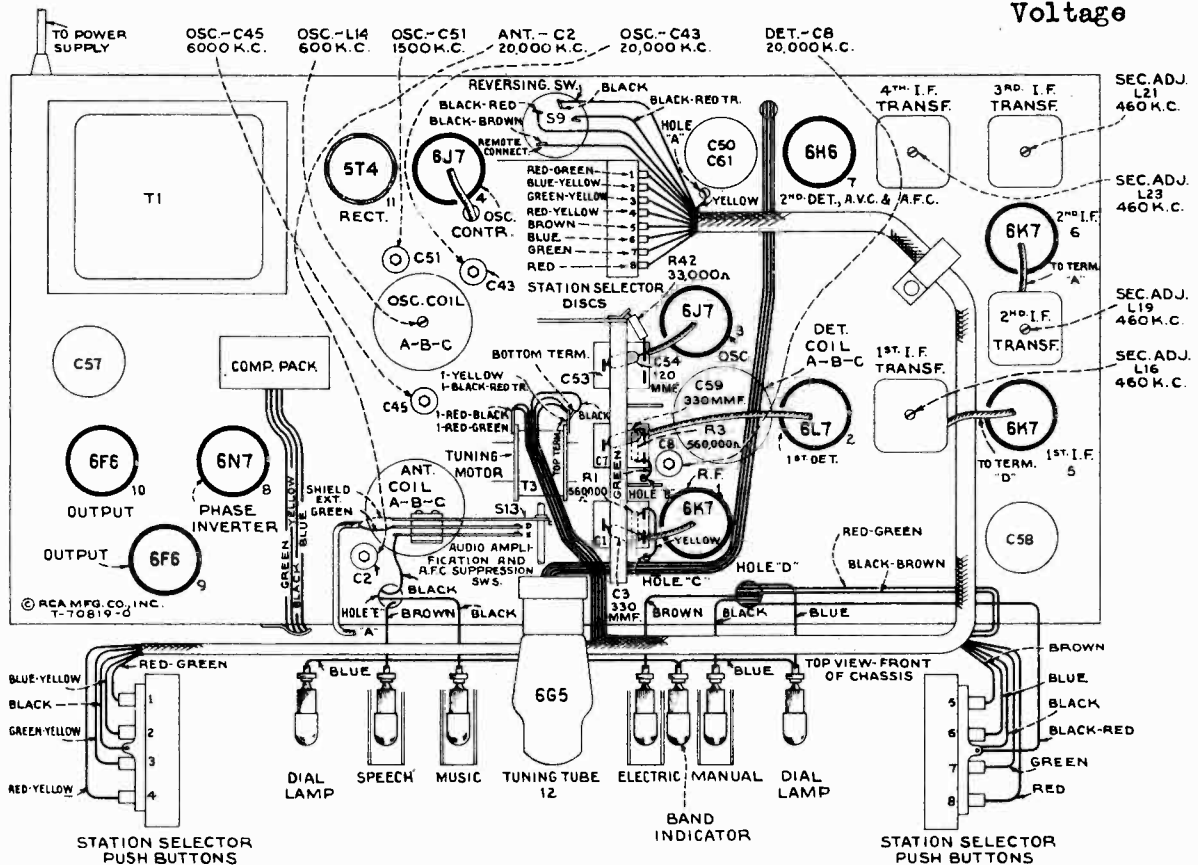

Figure 3—Radiotron, Coil, and Trimmer Locations
and i-f adjustments tabulated below. Adjustment locations are shown on figures 3 and 4.
Station Selector Drum.—(1) Bearing Adjustment.—The selector drum may be removed by unscrewing the two bearing adjusting screws "X" on the front and rear bearings and sliding shaft out of slots on frame. To replace drum, the reverse procedure should be followed holding bearing adjusting plates "Y" firmly against the shaft and tightening adjusting screws "Z". They are designated on figure 3, as types 1 and 2, on which the individual contacts are respectively adjustable and fixed. On type 1, the individual contacts should be adjusted by setting the end contact springs near the mid-position of their travel and aligning the remaining springs to them by means of a straight edge. Either type of contact strip should be adjusted to the selector drum by placing two screws 1 and 8 loosening contact strip adjusting screws "X" and "Z" and shifting the contact strip until the end contacts are exactly centered on the respective disc insulating segments. More accurate adjustment may be made by aligning the point of contact with a piece of white paper held behind the contact. Adjustment will be facilitated by unscrewing the three mounting screws. Contacts and disc must be kept free of dirt, filings, and other extraneous matter.